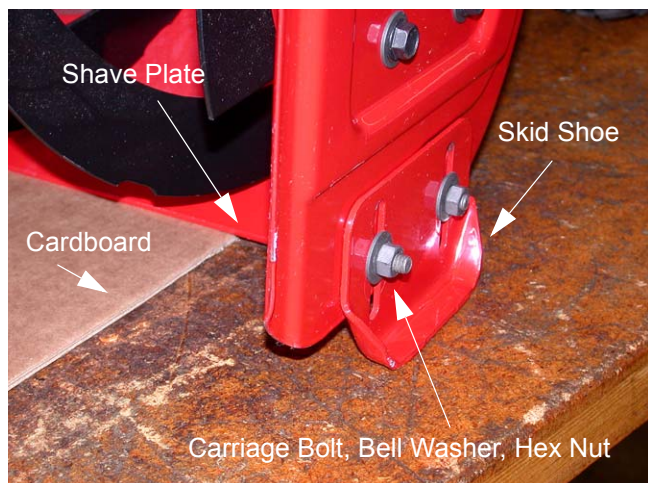

Figure 1.1
- 1.1. Place a piece of carton cardboard under the shave plate. See Figure 1.1.
- 2.1. Remove the two carriage bolts, bell washers and hex nuts securing the skid shoes to the auger housing. See Figure 1.1.
- 3.1. Remove both skid shoes and hardware including carriage bolts, bell washers and hex nuts which attach shave plate to the snow thrower housing. See Figure 1.1.